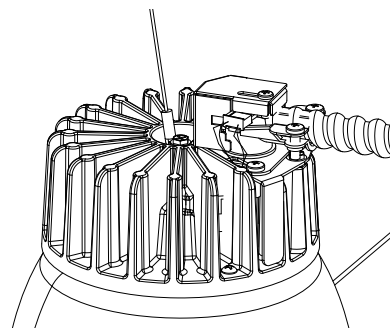

Figure 3
3. Place the LED (smaller two pin) connectors into the casting opening and secure the trim using the two retained screws on the BX assembly. Place the power connectors into the BX connector housing. See Figure 3.